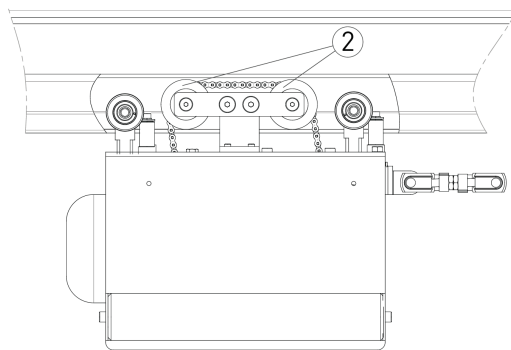

FIGURE 3
STEP 5: The friction wheels (drive wheel f/n 2) should not be in contact with the upper face of the track profile. See Figure 3.